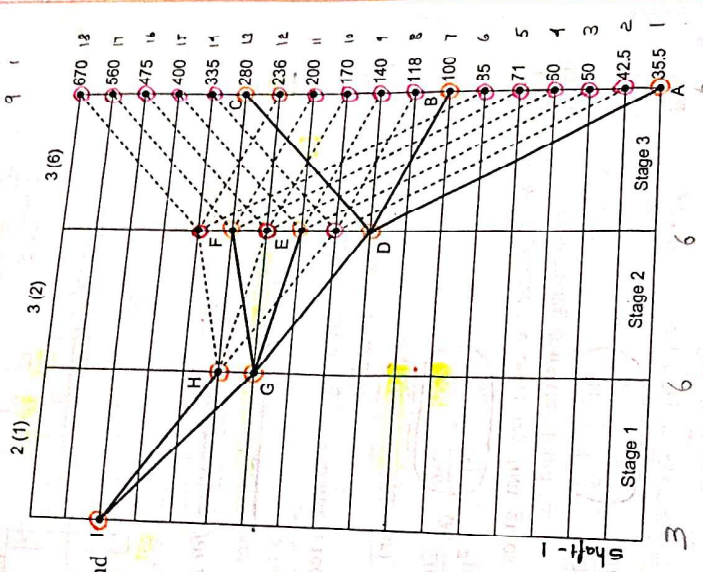

Fig. 9.23. Ray diagram for 18 speed gear box
2. Ray diagram: The ray diagram is constructed, as shown in Fig. 9.23.